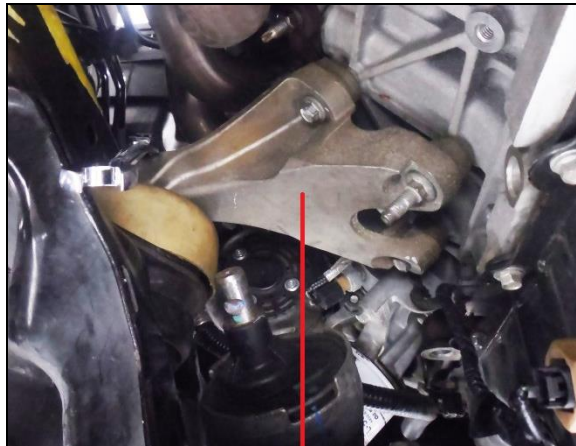

Figure 2
10. Using an engine support bar to hold the engine, remove the (x3) 13mm head bolts, (x1) 13mm head nuts, and (x1) 15mm head nut supporting the left side engine mount to the motor and chassis. See **Fig. 2**.